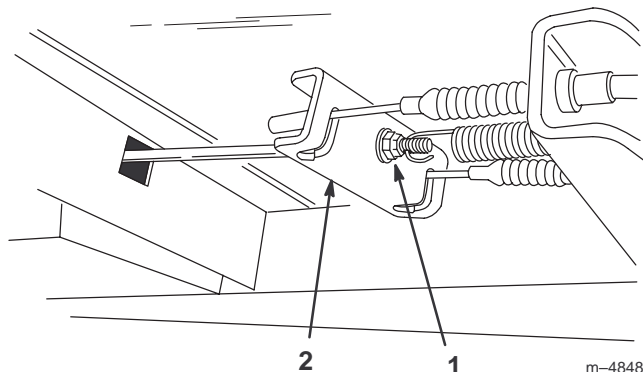

Figure 22
3. Tighten the cable adjusting screw, located beneath the floor panel, until the cables are snug in the brake equalizer (Fig. 22). Do not over tighten. There should be some free play in the brake pedal before the brake engages.